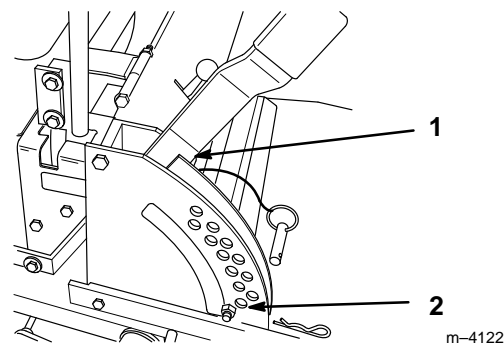
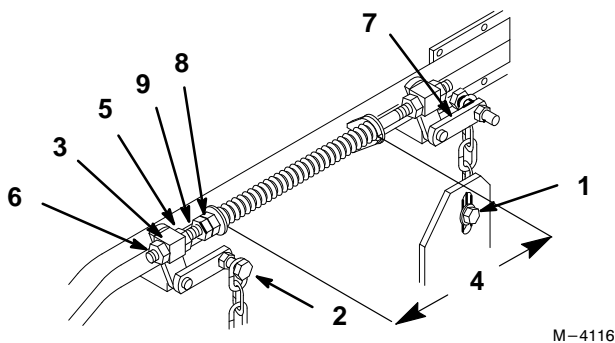

Figure 40
Figure 41
2. Check tire pressure of all four (4) tires. If needed, adjust to 13 psi (90 kPa)
4. Raise the deck to the transport position (Fig. 40). Take force off of the two large deck lift springs by loosening jam nut and front spring nut, in front of each spring, as far as possible (Fig. 41).
5. Place two 1-3/8" (35 mm) thick blocks under rear left and right lower edge of mower. Place one 1-3/4" (44 mm) block under front center lower edge of mower. Not under anti-scalp roller brackets. Lower mower to the 1-1/2" (38 mm) height-of-cut position (Fig. 40).
6. Loosen bottom chain bolt in slot at rear of deck. Repeat for opposite side. (Fig. 41).
7. Loosen front and rear locking nut on either side of front swivel. Loosen until front chains are loose and deck is supported by blocks. Repeat for opposite side. (Fig. 41).
8. When hardware is loosened, remaining tension in the large support springs will tend to rotate the deck lift handle up, out of the 1-1/2" position. Press down on the rear deck support arm to firmly return the deck lift handle to the 1-1/2" position (Fig. 41).
9. While continuing to press down on rear deck support arm, take the slack out of the rear chain and tighten hardware at the bottom (Fig. 41). Downward pressure may now be released. Repeat for opposite side.
14. Raise deck lift lever to the transport position (Fig. 40).
15. Adjust compression springs by turning the front spring nuts so the distance between the two large washers is 10-1/4" (260 mm). Then tighten jam nut (Fig. 41).